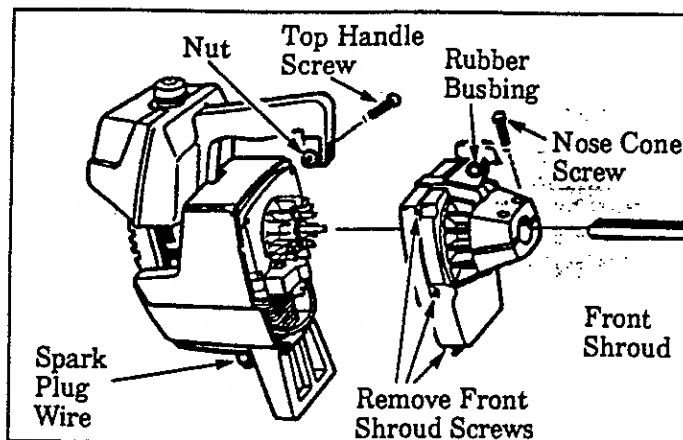

Figure 21
1. Disconnect Spark Plug Wire. Figure 21.
2. Loosen two "Nose Cone" Screws and remove Drive Shaft Housing from front shroud. Figure 21.
3. Remove the six Front Shroud Screws with the small hex wrench provided. Figure 21.
4. Remove the Top Handle Screw and Nut, and remove the Steel Spacer from the Rubber Bushing on the Handle Mount. Figure 21.
5. Separate Front Shroud from Engine. Figure 21.